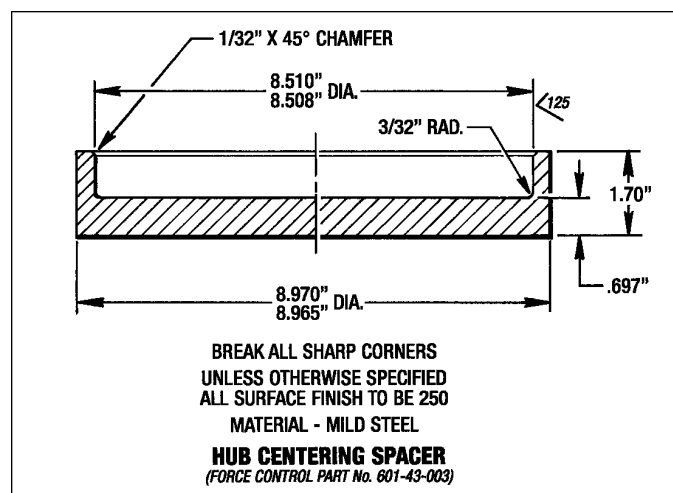

Figure 5.6 - Hub Centering Spacer
- Attach the Thrust Plate (#5) with (4) Lockwashers (#73) and (4) Screws (#65) to the Piston (#3). **Torque to 25 Ft. Lbs.** Set this assembly aside until the brake stack is installed.
- Set the Main Housing (#9) on a smooth work surface with the (3) Driver Pins (#210) facing up. Place the Hub Centering Spacer #601-43-003 into the Main Housing bore. (See Figure 5.6 for dimensions to machine the Spacer.) It can also be ordered from Force Control with the Part No. 601-43-003.